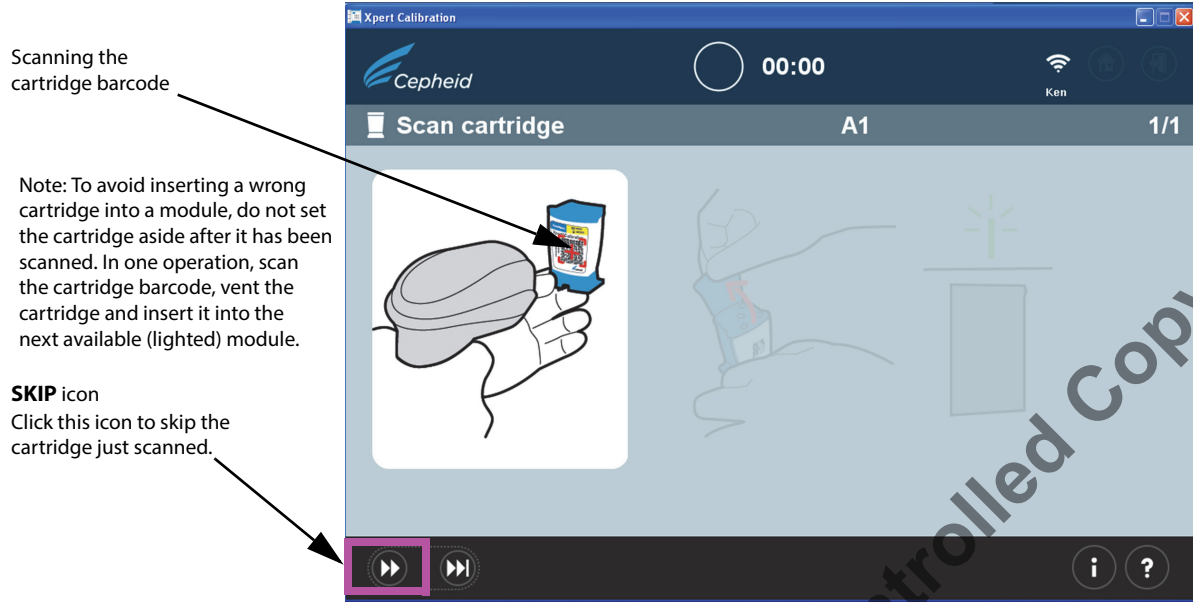

Figure 12. Scanning the Cartridge Barcode Screen
16. Scan the cartridge barcode. Figure 12 shows a cartridge barcode being scanned. Do not substitute a cartridge with another after it's been scanned.
- d. If the Retry icon (shown above in Figure 19 at the bottom of the screen) appears, click the Retry icon and you will return to the Scan Barcode screen (Figure 12) to complete the retest on the affected module(s).